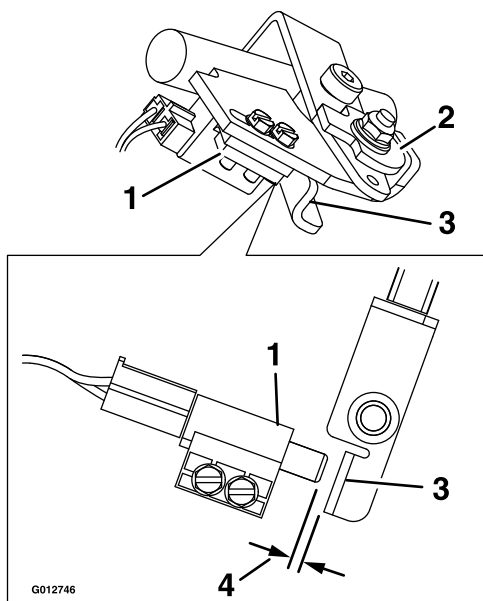

Figure 36
9. Check the gap between the control lever and switch as shown in Figure 36. The gap needs to be an 1/8 inch (3mm) with the right motion control lever in the neutral, operate position.